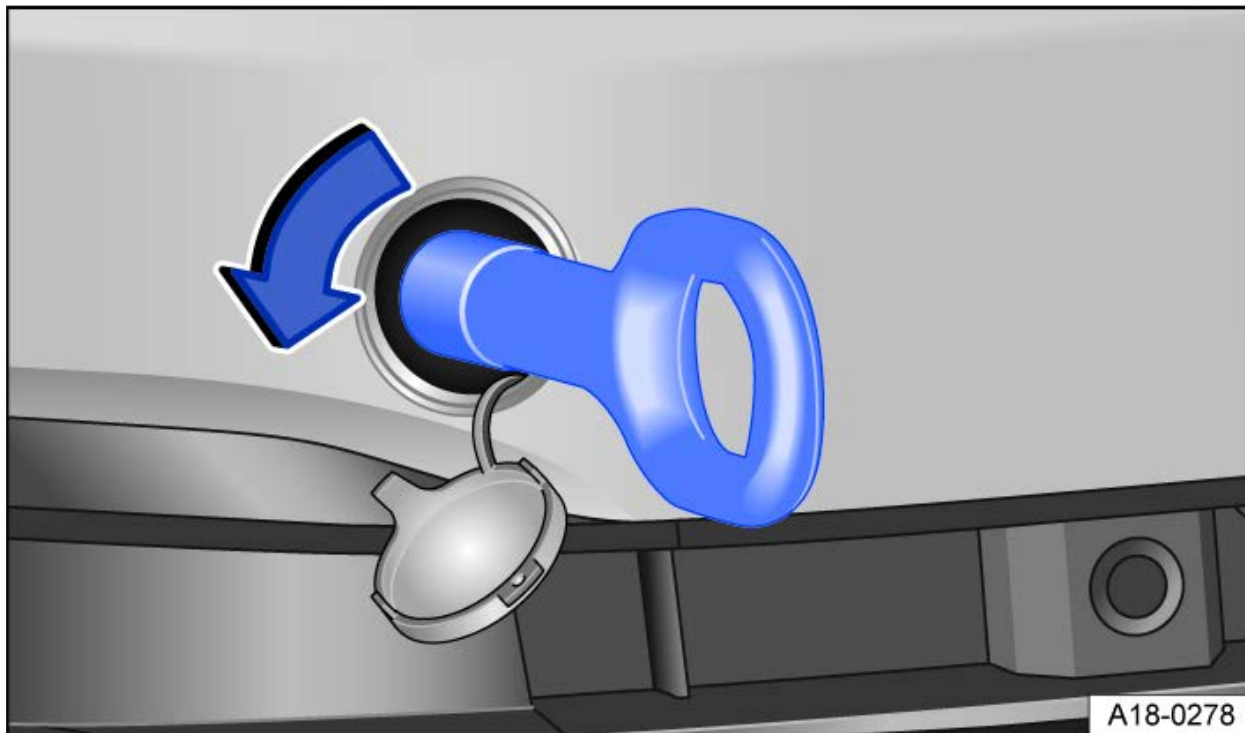

Fig. 2 In the right front bumper: Screw in towing eye.
- Rotate the towing eye **counterclockwise** as far as possible to install it in the mount → *fig. 2*, → ⚠. Use a suitable object to tighten the towing eye completely and securely in the mount.